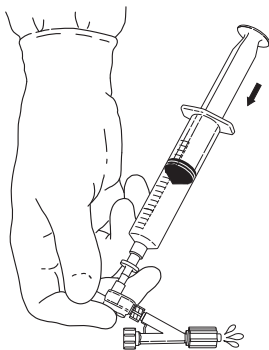

Fig. 3
5. Purge the remaining air by placing a thumb over the injection port. Slowly flush the remaining air bubbles out of the dual check valve and Tuohy-Borst adapter. **(Fig. 3)**